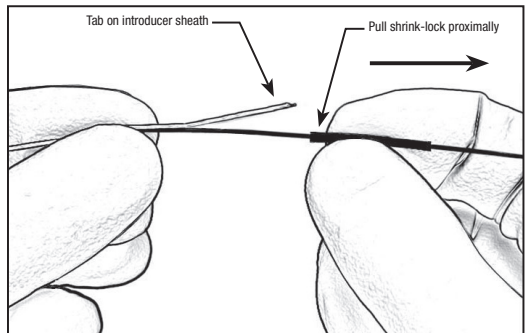

Figure 3 – Pull Shrink Lock Proximally
15. Hold the device just distal to the shrink-lock and pull the shrink-lock proximally to expose the tab on introducer sheath. See Figure 3.